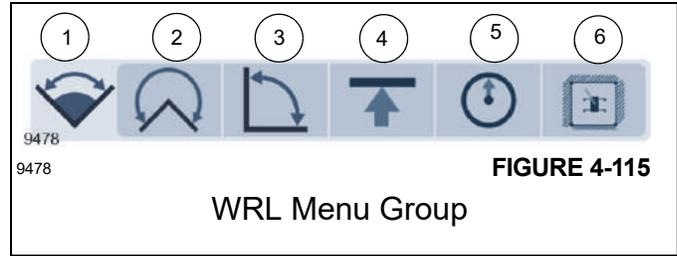

FIGURE 4-115
The WRL Menu Group (1, Figure 4-115) and sub-menu (2 thru 6) allows the operator to set limits on the location of the boom.
The following limitations are available under the WRL Menu Icon (1, Figure 4-115) as noted below. The number next to the limitation indicates the Menu Limitation Icon reflective of that group as shown in Figure 4-115.
When a limitation is active, and the boom has reached the requested limit position, the ODM shows a red-colored alert indicator for the limitation, again with a symbol for the particular type of limitation (refer to Figure 4-115 for the WRL Menu Icons). In this condition, audible alarms, as well as stopping of crane functions (if Lock-Out Function is used) will also be apparent. For example, for this condition, the following red Icon (shown below) would appear for the swing limitation:
To access the WRL Function Icon Screen, the Menu Function is used with the display. Once the Main Menu screen is shown, the WRL limitations are shown as a group, and one of the limitations can then be selected to work with that limitation screen. To move to the Icon you wish to select, use the Arrow Keys on the Navigational Control Pad or the Jog Dial to move to the corresponding Function Icon you wish to set the limitation on as shown in (Figure 4-115).
The WRL Group is made up of five (5) WRL Function Icons. To enable and define a limitation, access the related WRL Function Icon in the WRL Group (Figure 4-115).